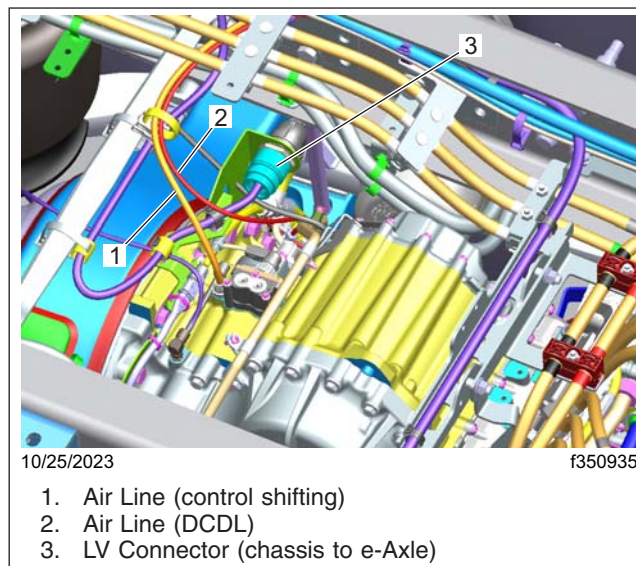

Fig. 11, Location of the LV Connector
8. Disconnect the low voltage (LV) chassis harness from the e-Axle. See **Fig. 11**.
17. Disconnect the air lines from the eCarrier. See Fig. 11.
49. Connect the air lines to the eCarrier. See **Fig. 11**.
50. Connect the LV chassis harness to the e-Axle. See **Fig. 11**.